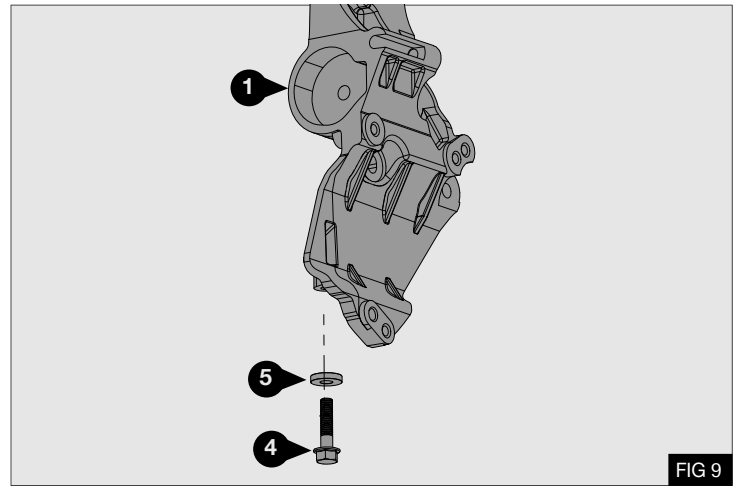

FIG 9
3. Secure the bottom of compressor mount bracket (1) to the sump using bolt (4) with washer (5) - Fig 9
4. Torque bolts (J) to 45 Nm / 33 lb ft – Fig 8, Torque bolt (5) to 25 Nm / 18.4 lb ft - Fig 9